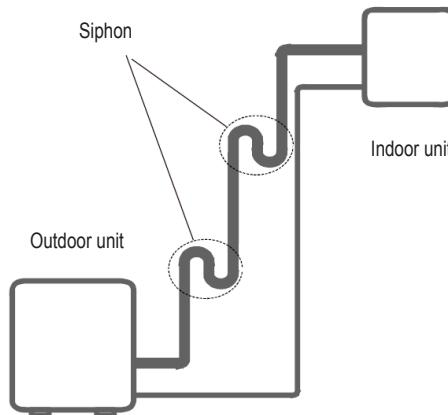

fig. 4 -
**Outdoor unit positioned at the bottom and indoor unit on the top ("fig. 4 -").**